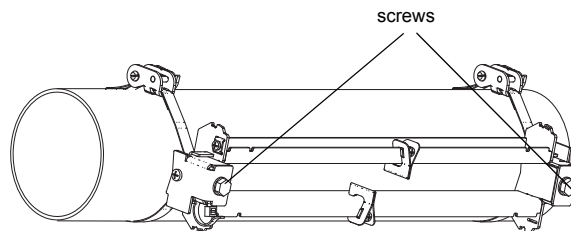

Fig. 8.40: Rail on the pipe
- Put the rail on the tension strap clamps (see Fig. 8.40).